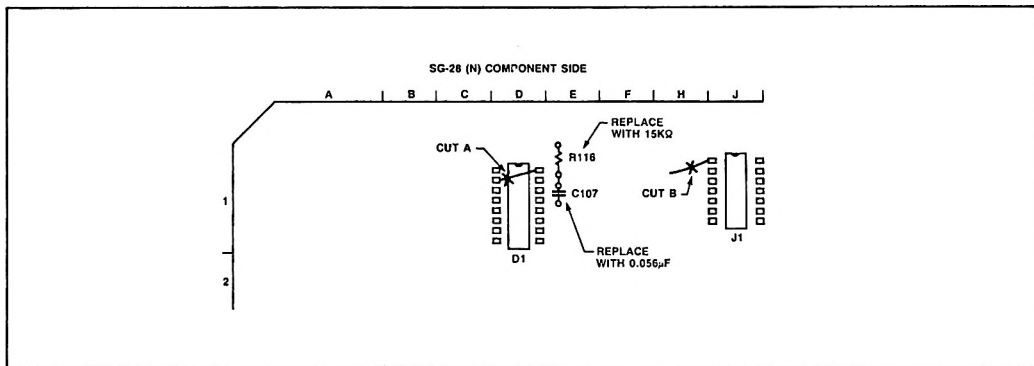

Figure 1
1. On the SG-28 (N) Board, replace R116 ( $16\text{K}\Omega$ ) with  $15\text{K}\Omega$  resistor P.N. 1-214-160-00. (See Figure 1.)
2. Replace C107 ( $0.1\mu\text{F}$ ) with  $0.056\mu\text{F}$  capacitor P.N. 1-108-597-00 (Figure 1).
3. On component side, cut trace between D1-2 and D1-16 (Cut A, Figure 1).
4. Cut trace at J1-1 (Cut B, Figure 1).